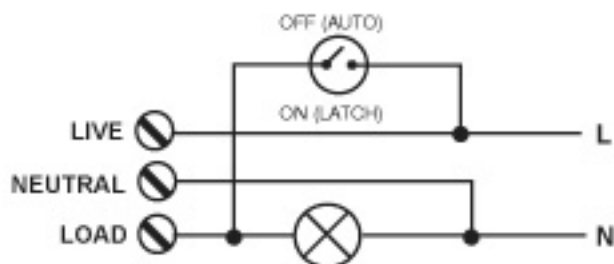

Fig. 4
- b. The Switch may be connected as shown in Fig. 4 to enable manual override if required, in this case, with the switch off, the Activator will control operation of the lights. With the switch on the lights will be on permanently until the Activator is turned off.